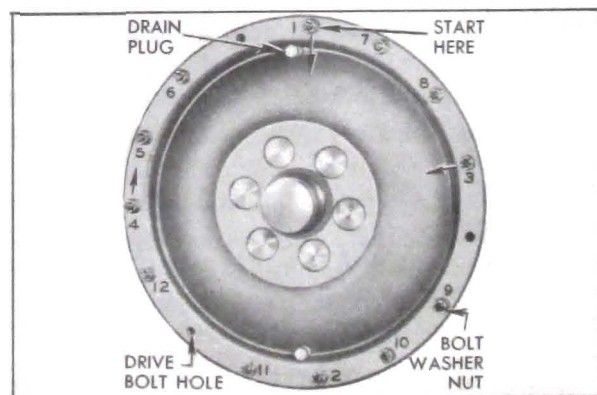

Figure 5-108—Bolt Tightening Sequence
20. Install bolts with plain washers and special nuts in all but the three driving bolt holes, insert the shank of a $1\frac{1}{32}$ " drill through one bolt hole to align all holes, then tighten bolts to approximately 5 ft. lbs. torque in numerical sequence shown in figure 5-108. Finally tighten bolts in same sequence to 25-30 ft. lbs. torque.